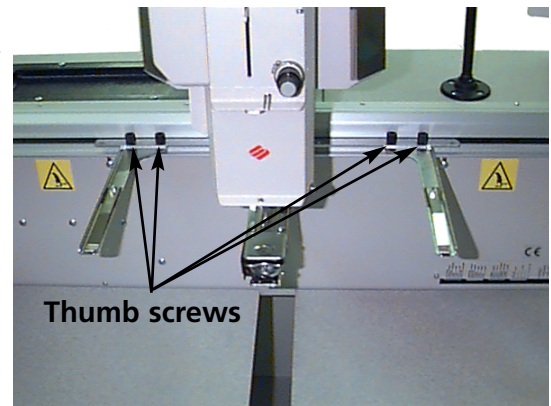

Figure 2-10
2. Attach the tubular frame support arms to the proper holes on the X-carriage for the selected hoop. Use two thumb screws for each support arm (see Figure 2-10). Make sure the clips (on the ends where the tubular frame will attach) face UP.
2. Remove the tubular frame support arms from the front of the X-carriage. Remove the two thumb screws holding each support arm (refer to Figure 2-10).